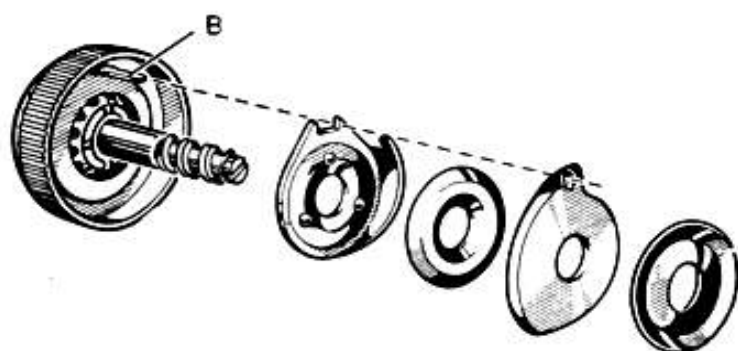

Fig. 25
- Disassemble parts as in Fig. 25.
- Assemble parts exactly as shown in Fig. 25 and in such a way that the « 0 » mark will be visible on button.